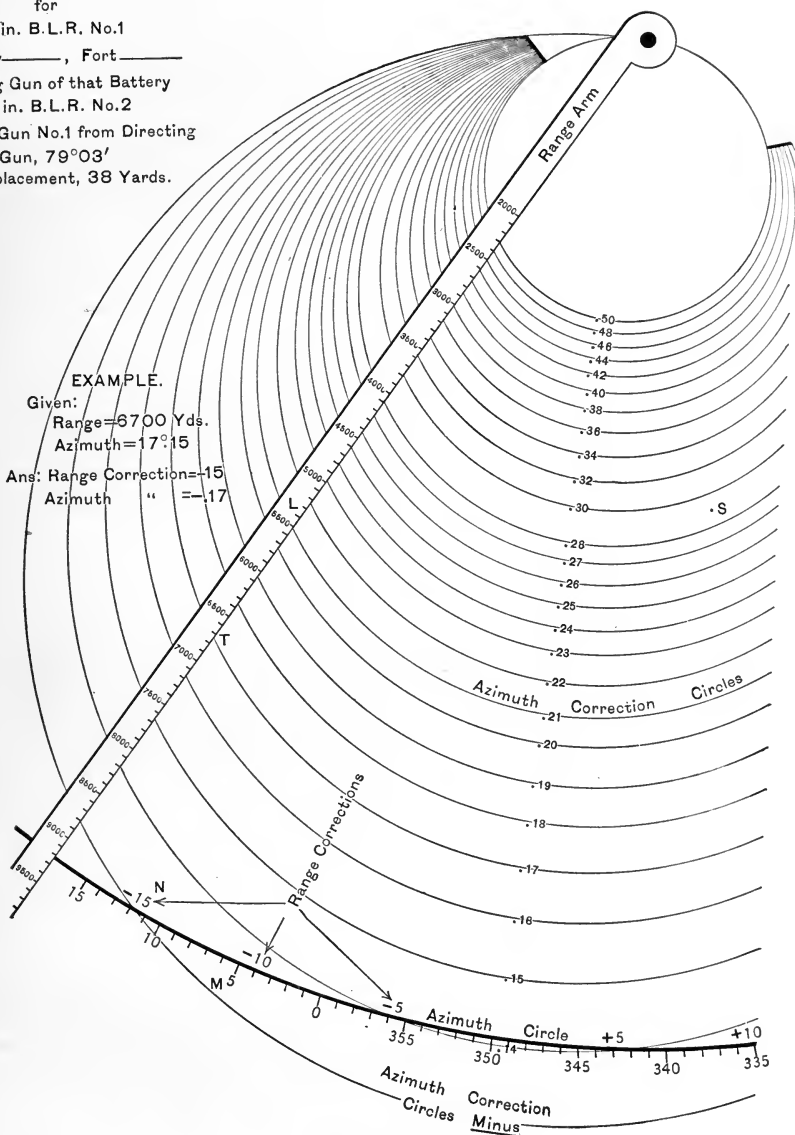

FIG. 77.
A. One that determines the differences in azimuth and range between the directing-gun and the gun for which it is constructed. It consists of a board having drawn on it circles of different diameters, which are the azimuth difference circles (the amounts being written on each circle). (See Fig. 77.)
Third: The azimuth difference is read on the nearest circle that cuts the point where the finger last rests, and the range difference is read on the scale in red ink along the azimuth circle of the board. (See Fig. 77.)